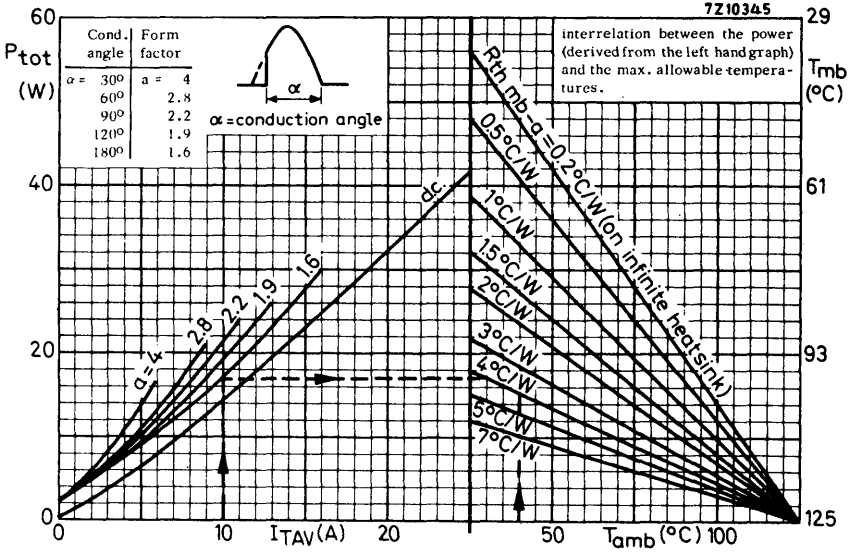

Fig. 3.
* To ensure thermal stability: $R_{th j-a} < 4,5$ °C/W (d.c. blocking) or < 9 °C/W (a.c.). For smaller heat-sinks T_{jmax} should be derated. For a.c. see Fig. 3.